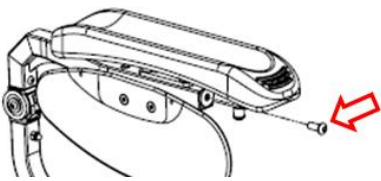

Figure 5.15
5.2.3.3 Use the Allen Key Wrench to loosen the screws. Remove the stopper A. Adjust the armrest forwards or backwards and re-tighten the screw. (Figure 5-15, Figure 5-16)